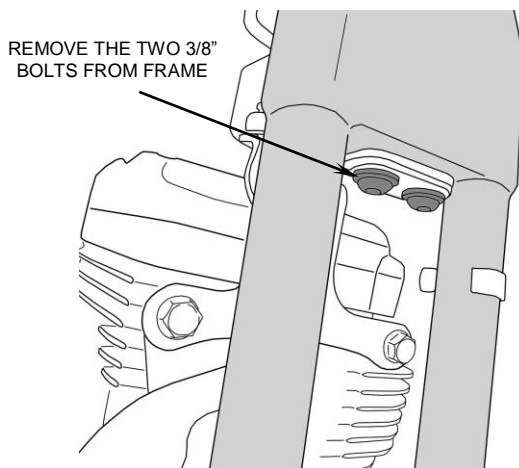

FIGURE 1
2. Remove and discard the (2) 3/8" motor mounting bolts securing the upper portion of the front cylinder to the frame. See Figure 1.